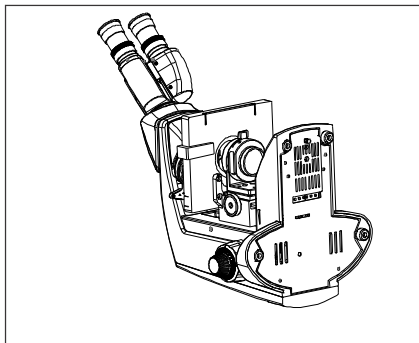

Fig. 1
- 2 To avoid potential electrical hazards when replacing either halogen bulb or LED, turn the microscopes main switch to the OFF position and disconnect power cord from wall outlet in advance. Whenever you replace your microscope bulb, allow lamp socket and bulb to cool before touching (Fig. 1)